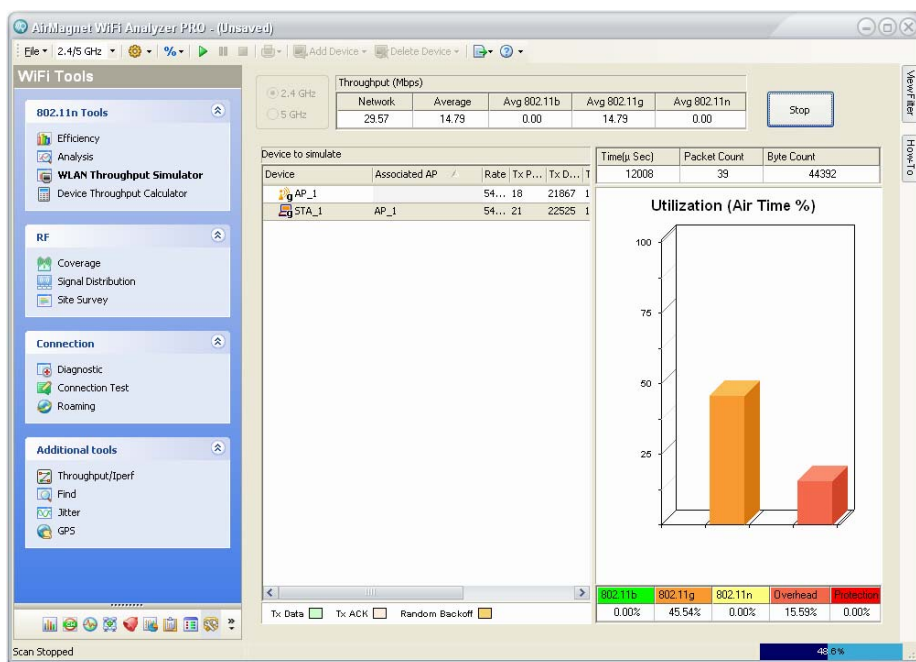

Figure 17-10: Simulated WLAN Throughput
- 6) Click the Run button in the upper-right corner of the screen. The simulation starts and the results are shown on the screen. See Figure 17-10.